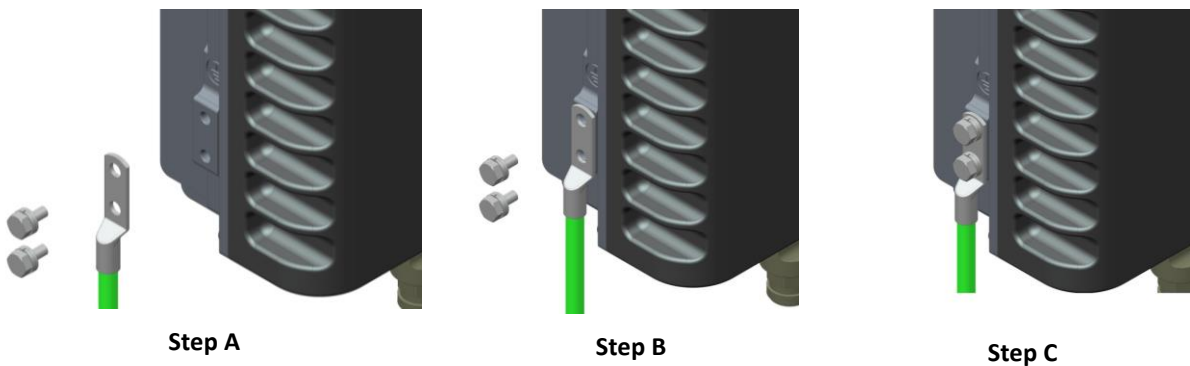

Figure 3-8 3/5/7 band RU grounding
- Connect an earth-bonding cable to the grounding bolt connection provided on the outside of the remote unit (Left-side) as shown in Figure 3-8. Do not use earth-bonding cable to connect other external devices.
- > loosen the two hex bolts attached to remote unit as illustrated in Figure 3-8, Step A
- > Connect the earth-bonding cable to remote unit as illustrated in Figure 3-8, Step B
- > Then, fasten all parts again by tightening the hex bolts as illustrated in Figure 3-8, Step C